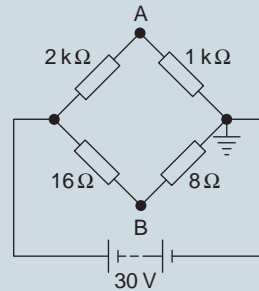

Figure 7.53
3. In the bridge circuit of Fig. 7.53 calculate (a) the absolute voltages at points A and B and (b) the voltage at A relative to B.